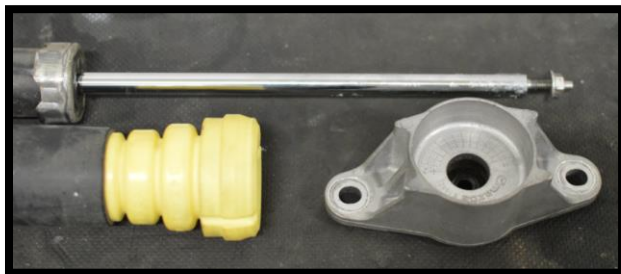

Figure 5b
- b) Remove the OE dust boot and bump stop from the OE top hat as shown in **Figure 5b.** It simply pulls free from the OEM rear shock top hat with some force.